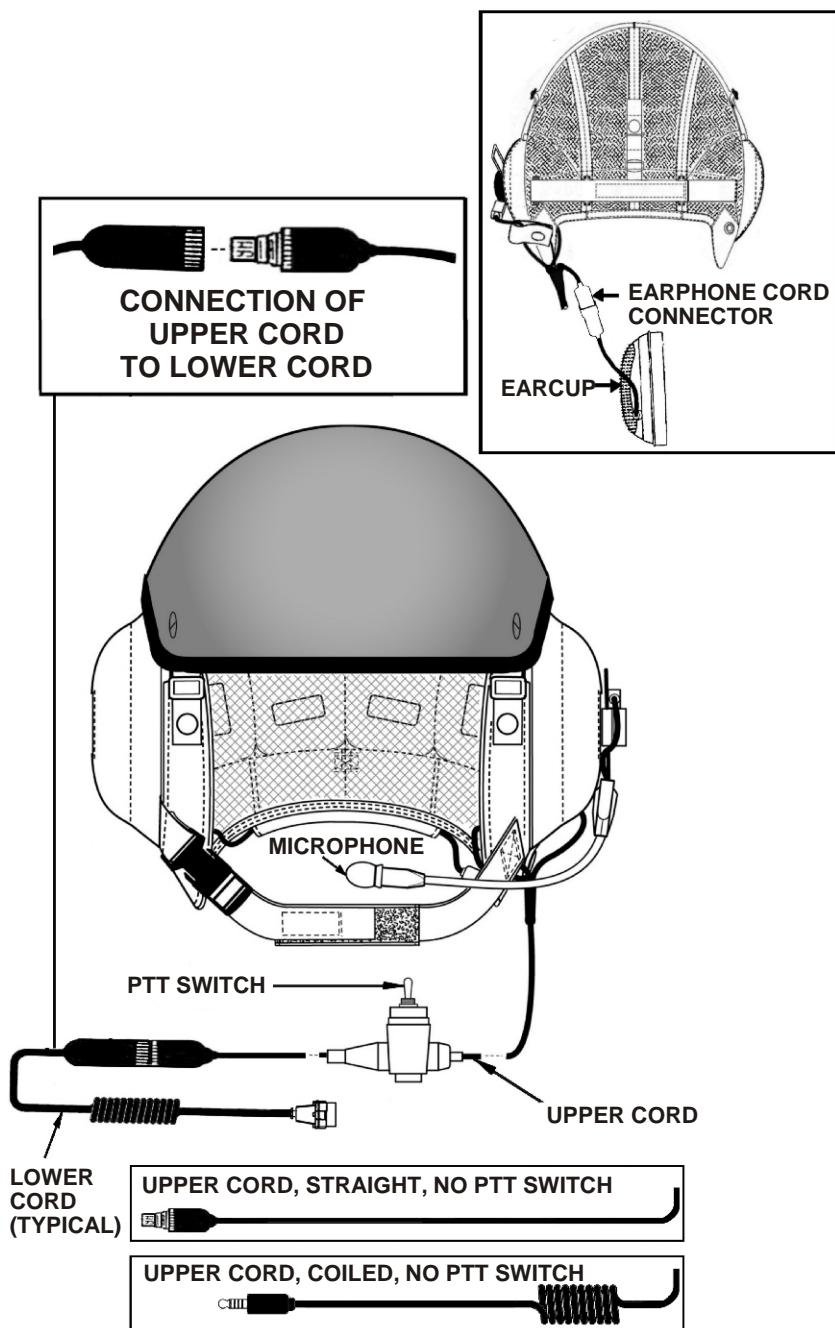

Figure 8. Helmet Operation Points
6. Connect the upper cord to the lower cord as shown in the inset in **Figure 8**.
- a. Referring to **Figure 8**, disconnect the earphone cord connector.